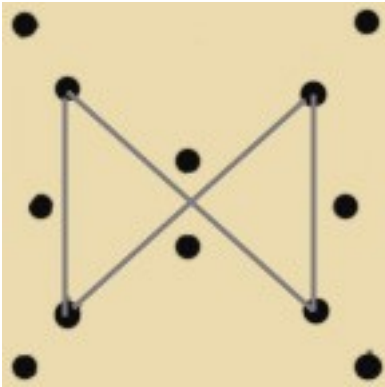

Figure 4
- 5) Stitch the bow tie (fig 4). Secure your wire to the back of the work.